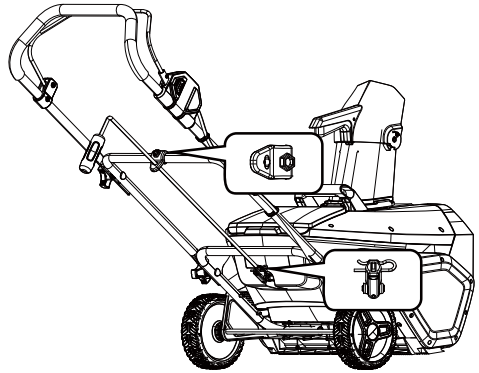

Fig. 9
- 3.** Using the cotter pin to secure the chute rotation lever in place. (See Fig. 9)